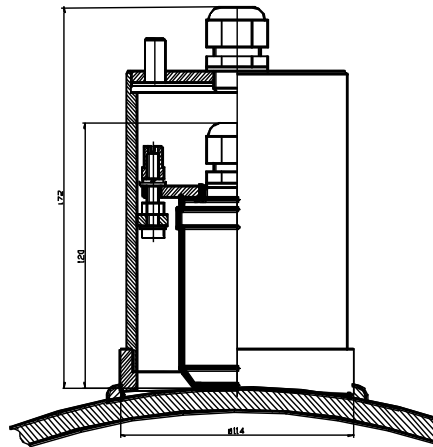

Fig.3
2. The Mounting Contrivance – The Mounting Contrivance is made of steel suitable for outdoor installation on pipeline and provides secure and reliable positioning of the Sensor in place. The Contrivance has two welded hooks for fasteners connecting the chain and a bottom section made of weldable carbon steel and can easily be fixed on the pipe line using the chain and fasteners or by 3 point welding. The Sensor is installed inside the Contrivance. The lid of the Contrivance has a hermetic gland for the Sensor cable (fig. 3).